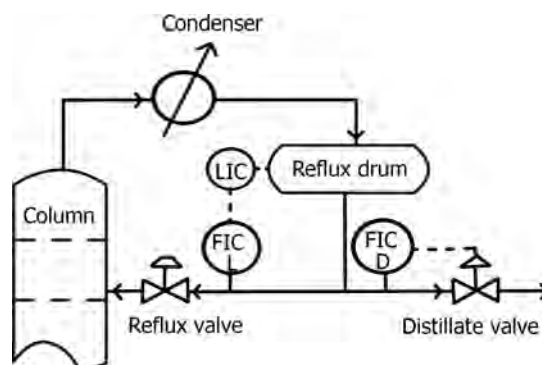

FIGURE 17.40 Level control for reflux drum.
- Figure 17.40 indicates the level control system for the reflux drum.
- (1) Columns that are directly linked to atmosphere through a breather vent over the condenser: